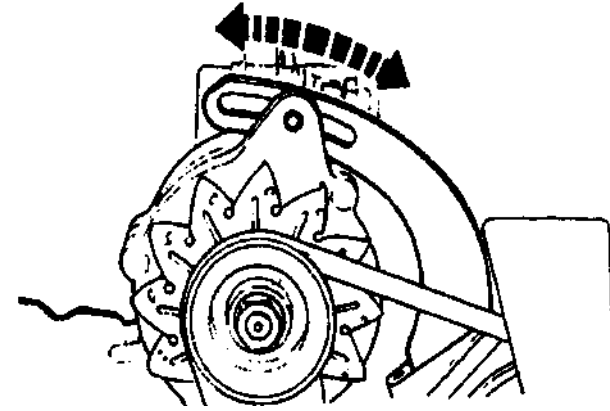

Fig. 1.4-2
- 3) Unscrew alternator adjusting bolt and generator fixing bolt, move the generator, to adjust the belt tension force to the specified value. See Fig. 1.4-2.